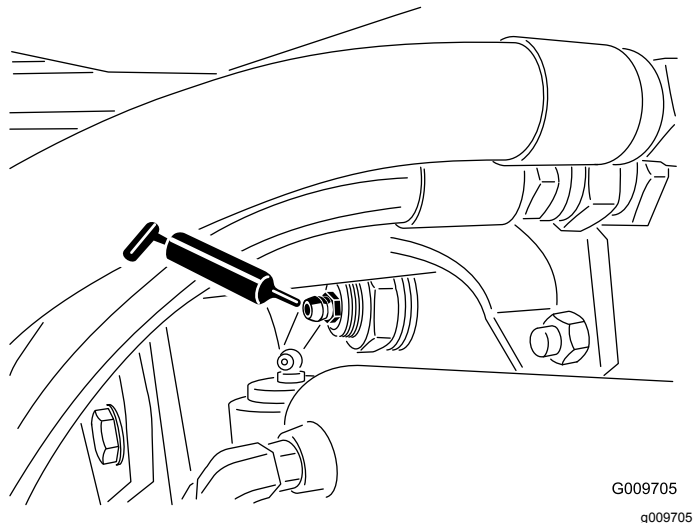

Figure 22
- Rear axle pivot bushings (2) (Figure 22)